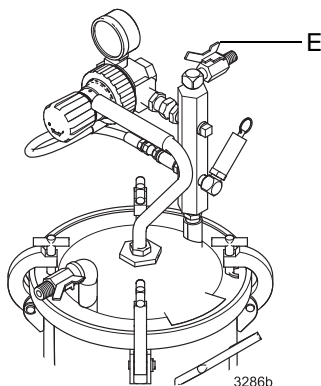

FIG. 2
1. Shut off the air supply to the tank by closing the air inlet valve (15). Refer to FIG. 2.
See FIG. 2 Connect an air supply hose to the 1/4 npt(m) air inlet valve (15) and your air supply. Install an air regulator and filter (G) upstream from the air inlet valve to remove dirt and moisture from your air supply. See **Accessories** on page 21. Connect a fluid hose (E) between the 3/8 npsm(m) outlet valve (K) and the fluid inlet of your spray gun.
(See FIG. 2)
A safety relief valve (12) will automatically relieve the tank pressure when the air pressure exceeds 95 to 100 psi (0.5 to 0.6 MPa, 6.5 to 7 bar). Refer to FIG. 2 or the parts drawings.